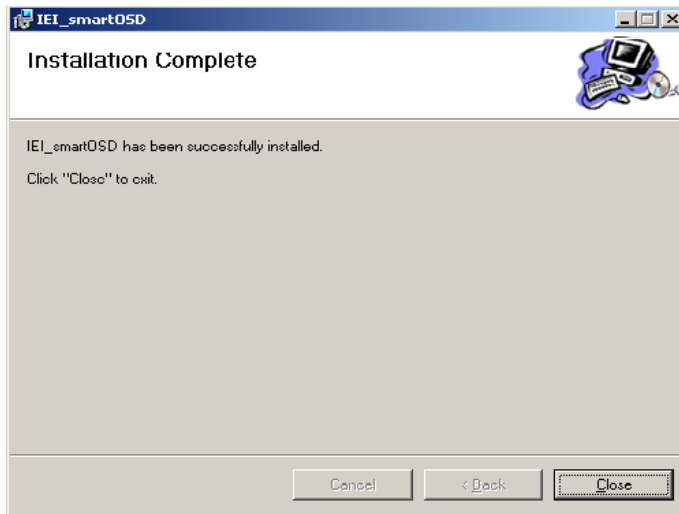

Figure C-6: smartOSD Installation Complete
**Step 11:** When the installation is complete the “Complete Installation” screen in Figure C-6 appears.